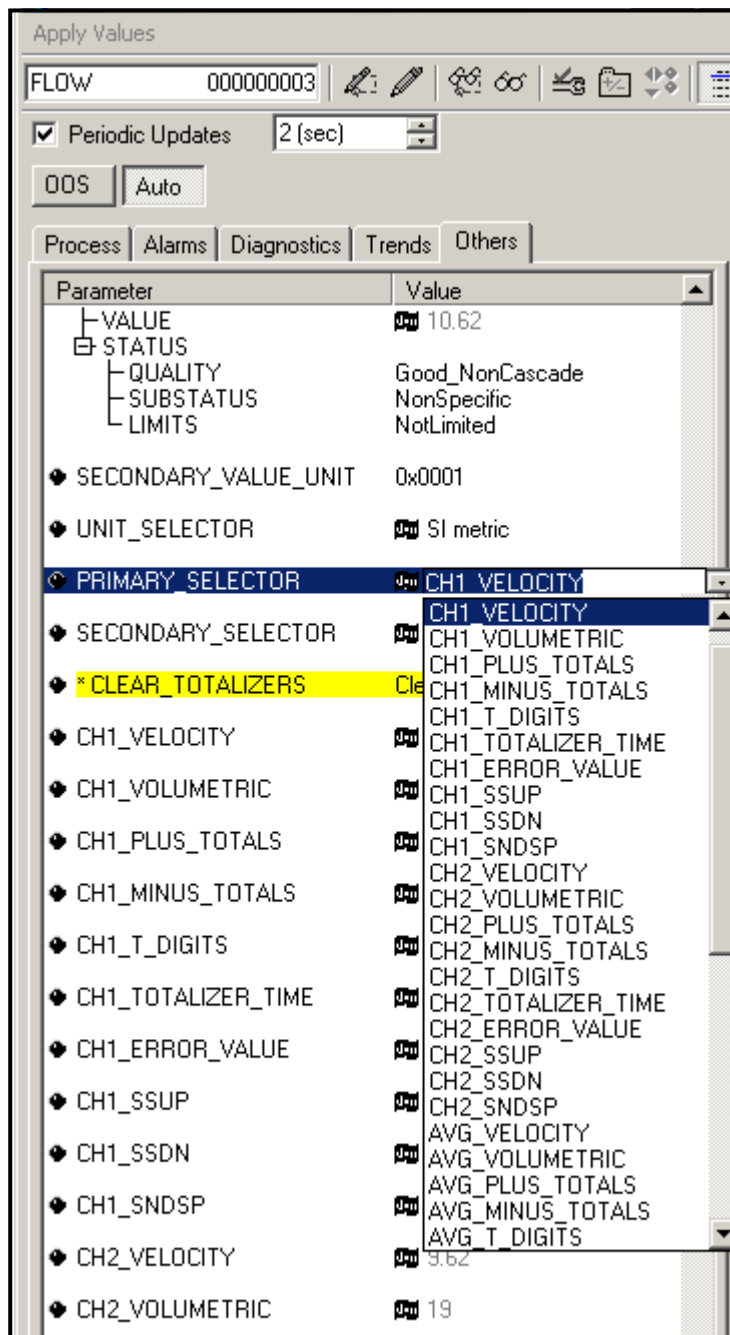

Figure 59: Primary Selector Drop Down List
2. Select the **Others** tab and open the drop down list for the PRIMARY_SELECTOR and SECONDARY_SELECTOR (refer to Figure 59 on page 79).
3. Choose the unit from the list (see Figure 59 on page 79).